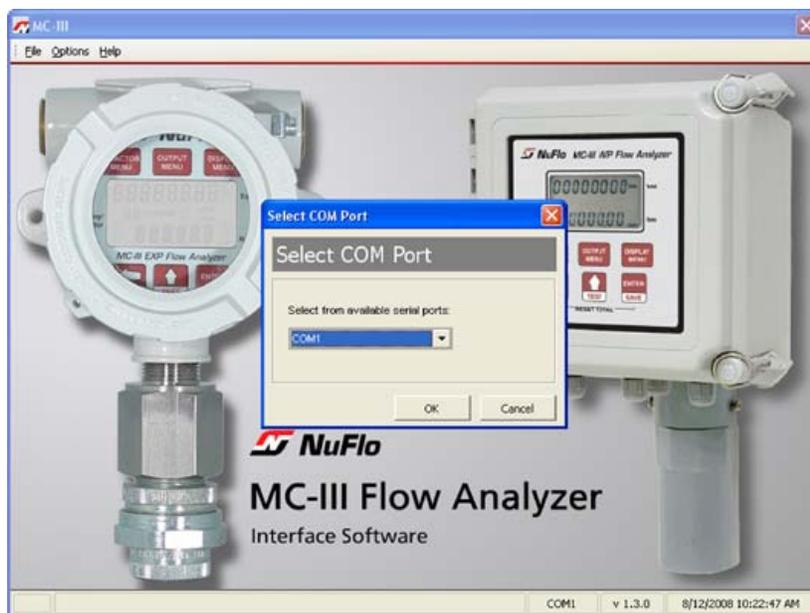

Figure 4.2—Select COM Port window
Click the Help menu in the task bar at the top of the Welcome screen (*Figure 4.2, page 40*) to access documentation for installing, configuring, and operating the MC-III EXP flow analyzer. This documentation includes:
1. Click on the NuFlo MC-III icon on the desktop, or select Start>Programs>NuFlo>MC-III 2.1.0>MC-III 2.1.0. The Welcome screen (Figure 4.2) will appear and a Select COM Port window will prompt the user to select the communications port to be used to connect with the MC-III EXP (Figure 4.2).